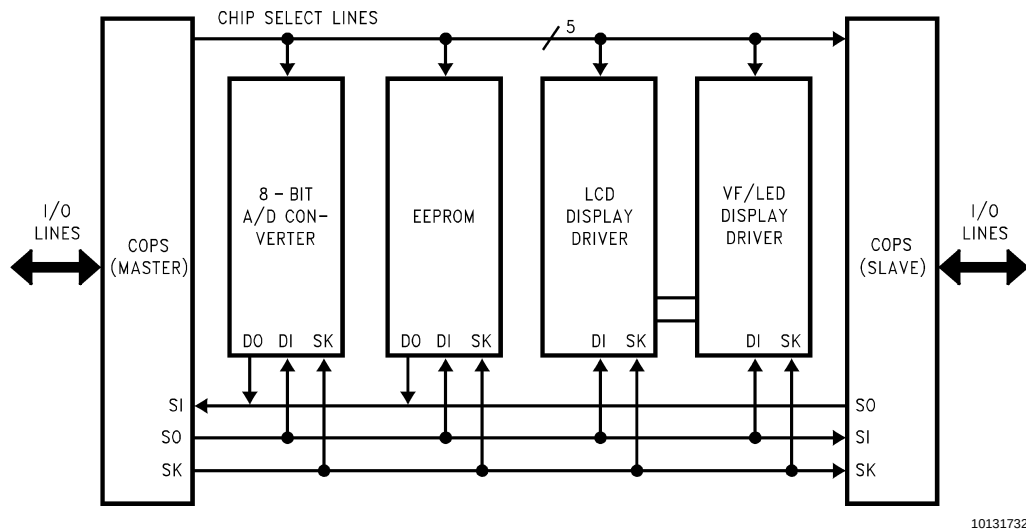

FIGURE 28. MICROWIRE/PLUS Application
MICROWIRE/PLUS is a serial SPI compatible synchronous communications interface. The MICROWIRE/PLUS capability enables the device to interface with MICROWIRE/PLUS or SPI peripherals (i.e. A/D converters, display drivers, EEPROMs etc.) and with other microcontrollers which support the MICROWIRE/PLUS or SPI interface. It consists of an 8-bit serial shift register (SIO) with serial data input (SI), serial data output (SO) and serial shift clock (SK). *Figure 28* shows a block diagram of the MICROWIRE/PLUS logic.
enabled, an interrupt is generated when eight data bits have been shifted. The device may enter the MICROWIRE/PLUS mode either as a Master or as a Slave. Figure 28 shows how two microcontroller devices and several peripherals may be interconnected using the MICROWIRE/PLUS arrangements.